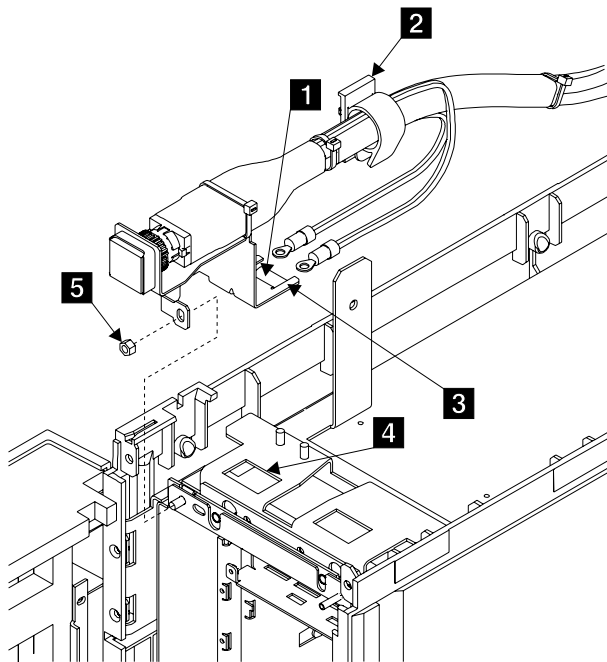

Figure 107. Installing the Later-Type Power Switch and Cable Assembly
- Step 2. Refer to Figure 107.